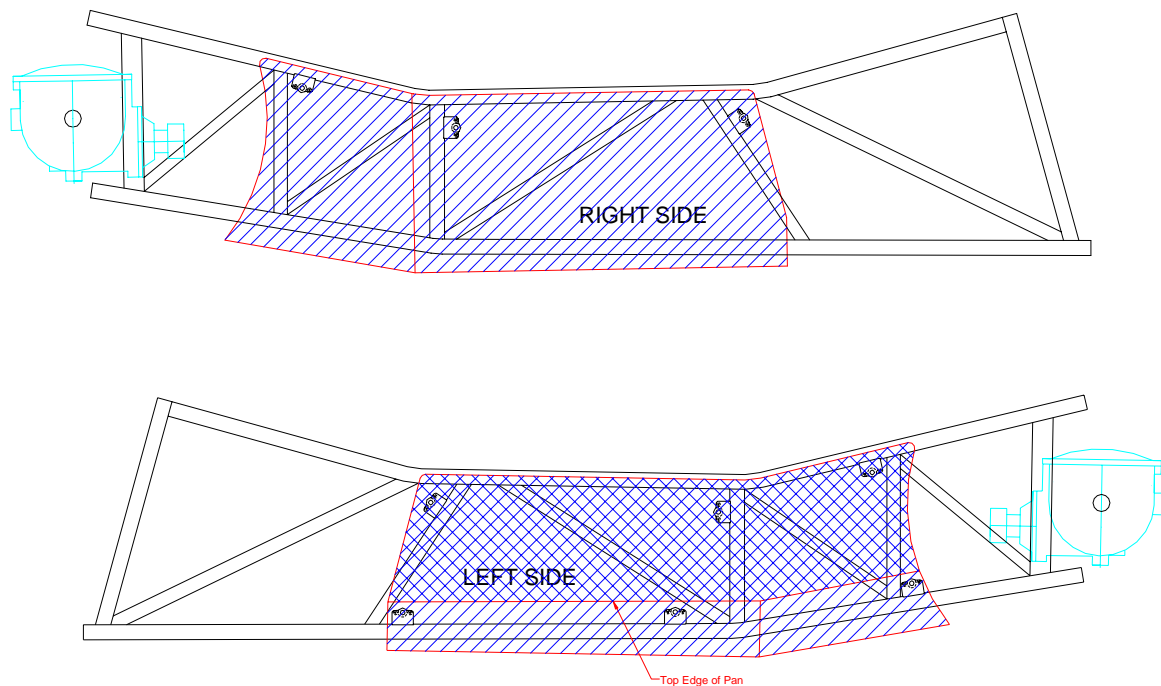

Figure 4
- 23) Trim the piece to match the right side of the pan. An approximate view of what a trimmed pan looks like is shown below in Figure 4.